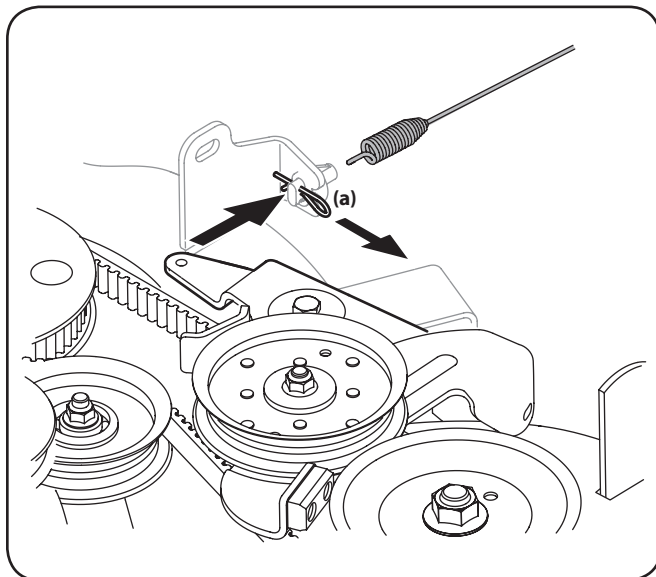

Figure 7-4
13. Pull the click pin (a) out and unhook the drive spring cable from the idler arm assembly. See Figure 7-4.